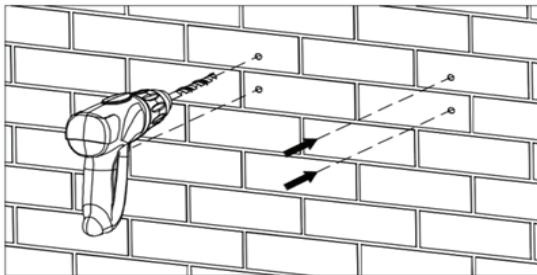

Figure 11 Drilling
- (2) Drill 4 installation holes on the wall with electric drill. As shown in Figure 11